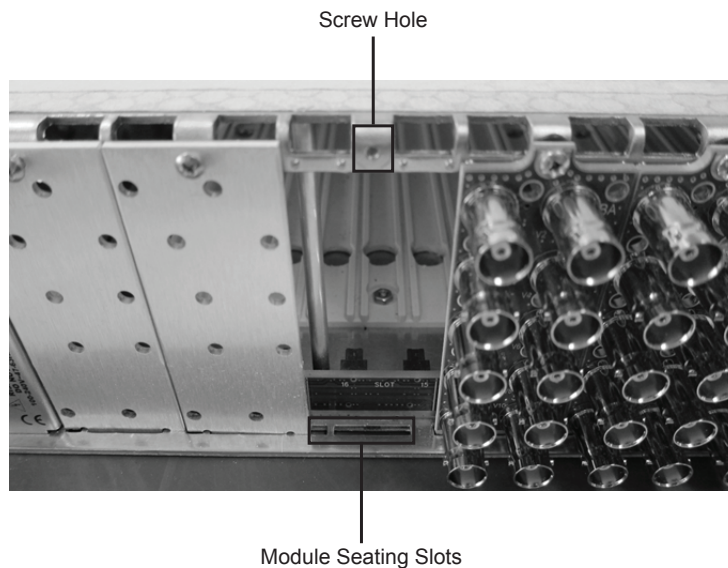

Figure 2.2 Rear Module Installation in an OG3-FR Series Frame (Cards not shown)
6. Seat the bottom of the rear module in the **Module Seating Slot** at the base of the frame’s back plane. (**Figure 2.2**)